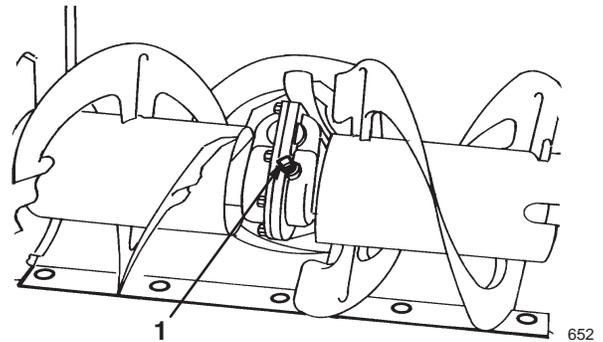

Figure 27
4. Clean the area around the pipe plug (Fig. 27).
5. Remove the pipe plug from the gearbox (Fig. 27).